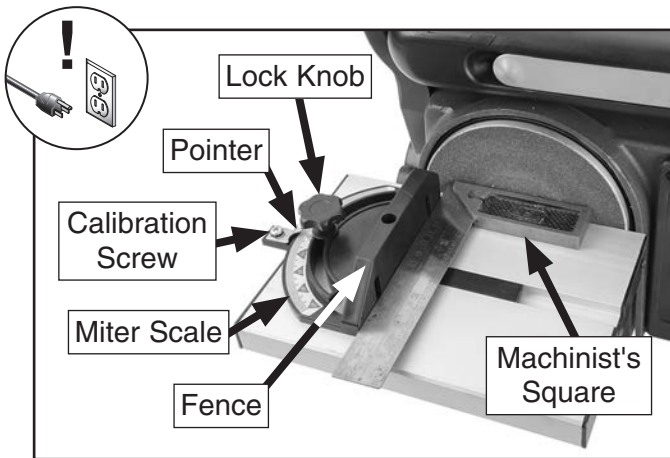

Figure 35. Calibrating miter gauge.
- Loosen miter gauge lock knob and use a machinist's square with one edge against miter gauge fence and other edge against sanding disc, as shown in **Figure 35**.
- Pointer shown in **Figure 35** should point to "0" on the miter scale.
- Loosen calibration screw shown in **Figure 35**, and move pointer so it points to "0" on miter scale, making sure fence remains flush with machinist's square.